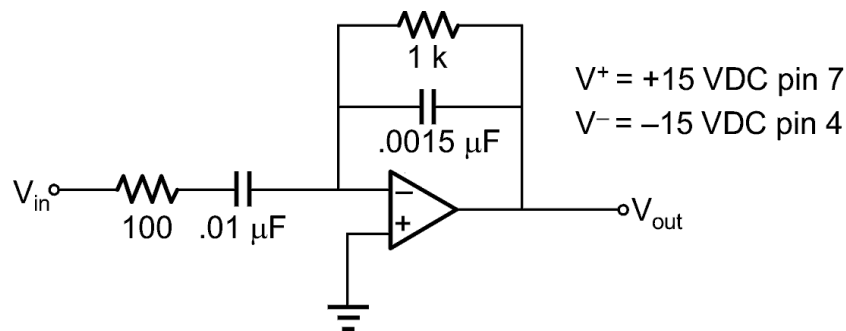

Figure 1
1. Derive the equation for  $V_{out}$  for the circuit of Figure 1. Calculate the highest usable (“differentiable”) frequency,  $f_{high}$ . Record these items in Table 1.